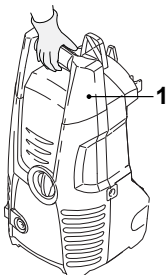

Fig. 32
3. Always transport the product by its handle (1) (Fig. 32).